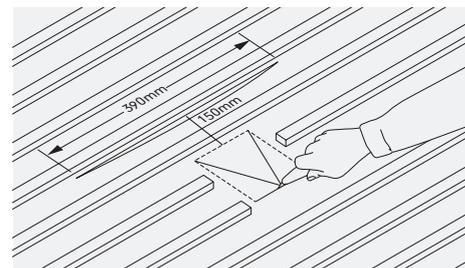

Fig. 1 – Make aperture in underlay. For Plain and Anglia tiles battens will need to be cut to create sufficient aperture
- 4 Make a horizontal cut in underlay, 390mm long, at a distance 150mm above bottom edge of tiling batten above unit and slide soaker tray under batten and through slit in underlay (Fig. 1, page 237).